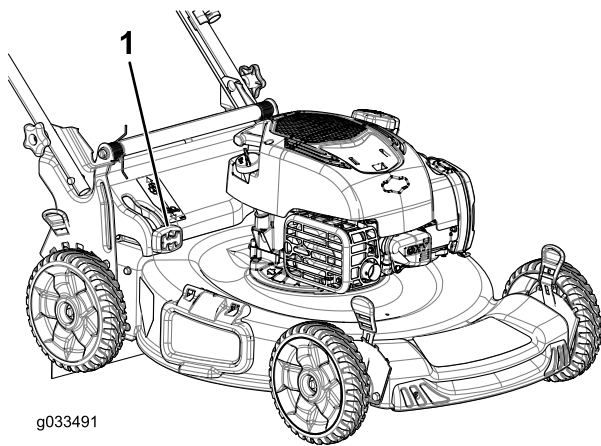

Figure 17
- **To bag the grass and leaf clippings**, press the button on the bag-on-demand lever and move the lever forward until the button on the lever pops up (Figure 17).